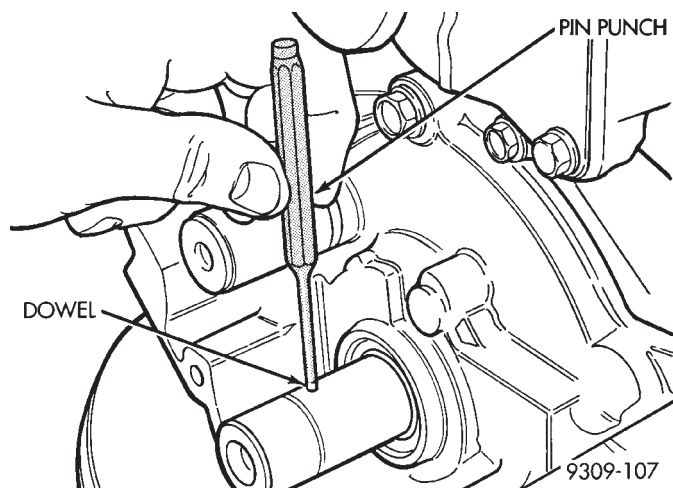

Fig. 78 Crankshaft Sprocket Dowel Pin—Removal/Installation
(3) Tap the dowel pin out of the crankshaft (Fig. 78).
(2) Install the dowel pin into the crankshaft to 1.2 mm (0.047 inch.) protrusion (Fig. 78).